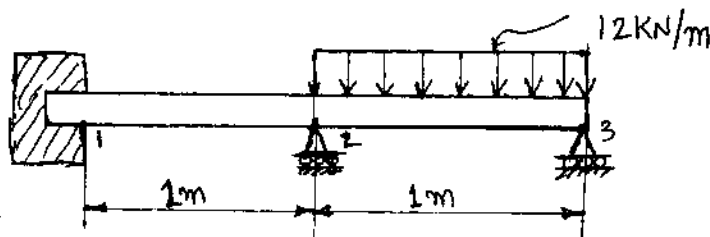

Fig.Q7(b)
- b. For the beam and loading shown in Fig. Q7(b), determine the slopes at 2 and 3, vertical deflection at the mid points of the distributed load. Take $E = 200 \text{ GPa}$, $I = 4 \times 10^6 \text{ mm}^4$. (12 Marks)